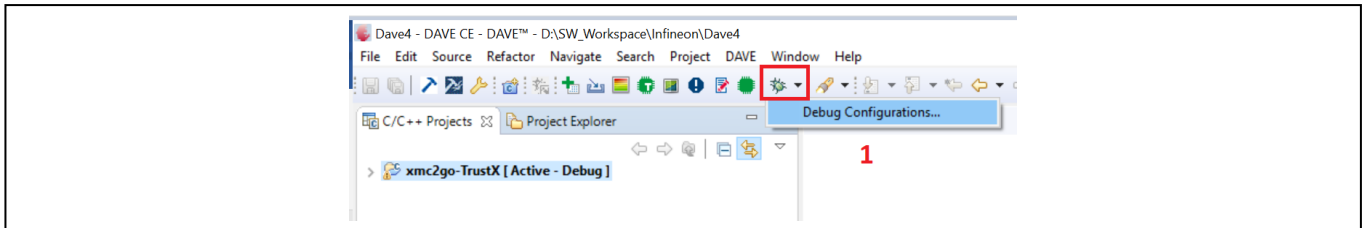

Figure 13 Debug Configuration
- Open Debug Configurations as shown in Figure 13.